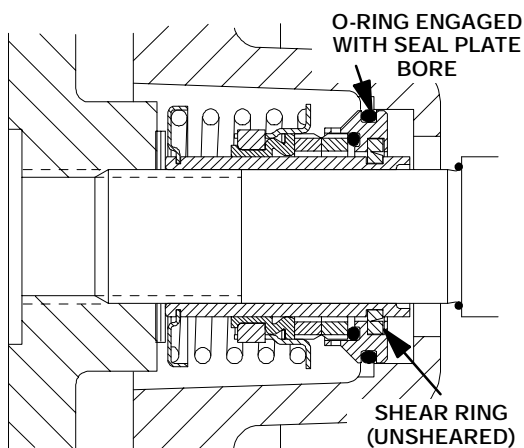

Figure C--8. Seal Partially Installed
Clean and inspect the impeller as described in **Impeller Installation and Adjustment**. Install half of the set of impeller shims (28) provided with the seal, and screw the impeller onto the shaft until it is seated against the seal (see Figure C-8).